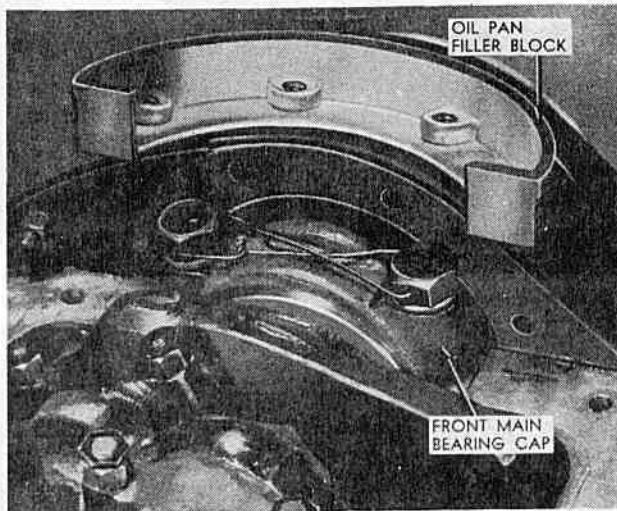

FIG. 132
**CHAMPION** Before installing the oil pan, inspect the engine front plate gasket and replace it if necessary. Install the side pan gaskets, fitting them tightly against the front plate gasket. After placing the oil pan filler block (see Fig. 132) and gasket in position, use a drift to align the filler block holes with those in the engine front plate. Insert the screws through the engine front support bracket, the timing gear cover, and the engine front plate and thread them into the filler block. Do not tighten them securely.